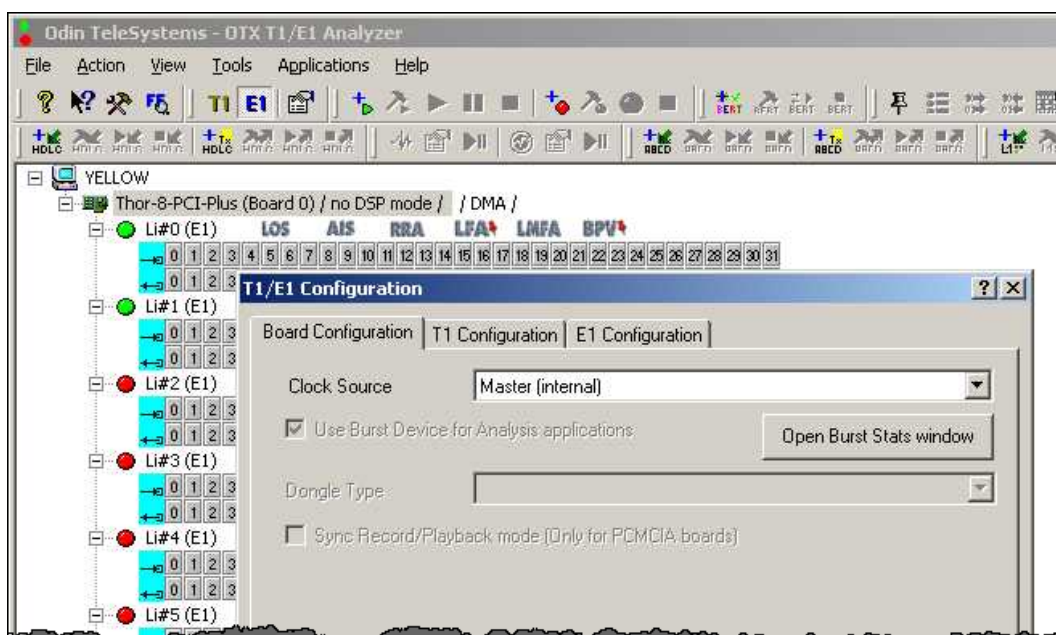

Figure 22 Setting Board Configuration.
4. Select the board level as the scope of operations. Right button click on the board name and select "Properties..." menu item. On "Board Configurations" tab of the "T1/E1 Configuration" window set "Clock Source" option to "Master (internal)" (See Figure 22). Press "OK".